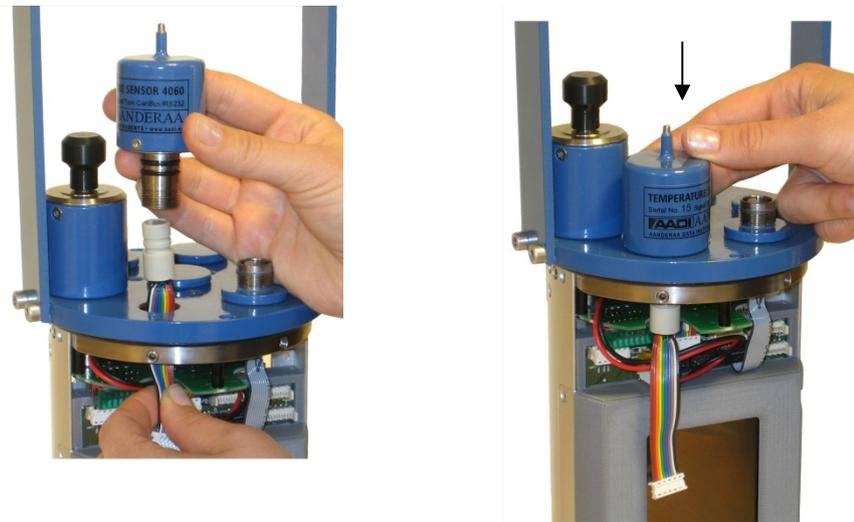

Figure7-13 Connect the sensor to the patch cable 3969492.
- a. AiCaP sensor in position 6: Disconnect the upper battery. Unscrew and remove the two screws that hold the top cover. Refer **Figure7-12**. Remove the top cover. Thread the ribbon sensor cable through the borehole. Align the orientation pin for correct orientation of the sensor. Gently push down the sensor. Refer **Figure7-13**. Connect the sensor cable to J6 on the HUB; refer **Figure7-14**.